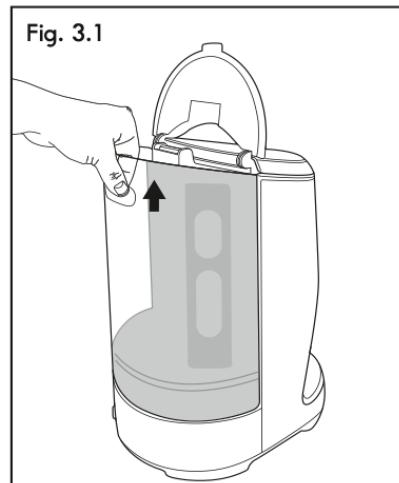

Fig. 3.1
The coffee maker has a removable water tank. Lift the tank lid and use the finger grip to lift up and remove the tank (s. Fig. 3.1). The tank should only be removed for filling and cleaning.
3. Use the carafe to fill the water tank of the coffee maker to the desired level with cold water, or you can remove the tank from the base as shown in Fig. 3.1 and fill it directly with cold water from a faucet.